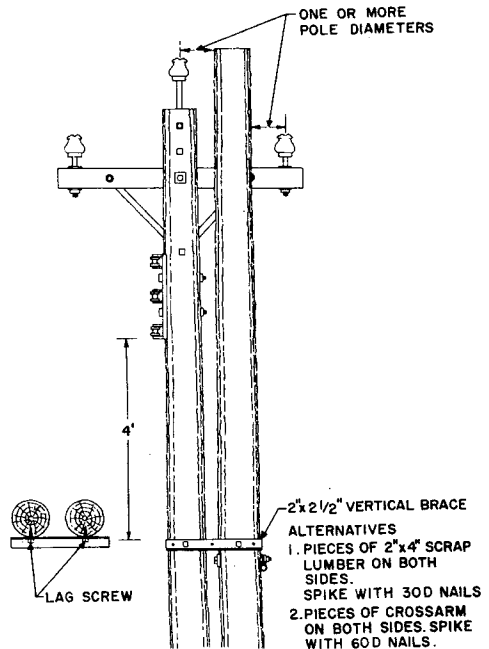

Fig. 7—Tying Poles Together with Angle Iron
7.09 If the standard vertical brace (a 2- by 2-1/2 inch angle iron) is available, it should be used in lieu of the lashing and wedging method just described. The vertical brace is installed with a single 4-1/2 by 1/2-inch lag screw at each end as shown in Fig. 7.